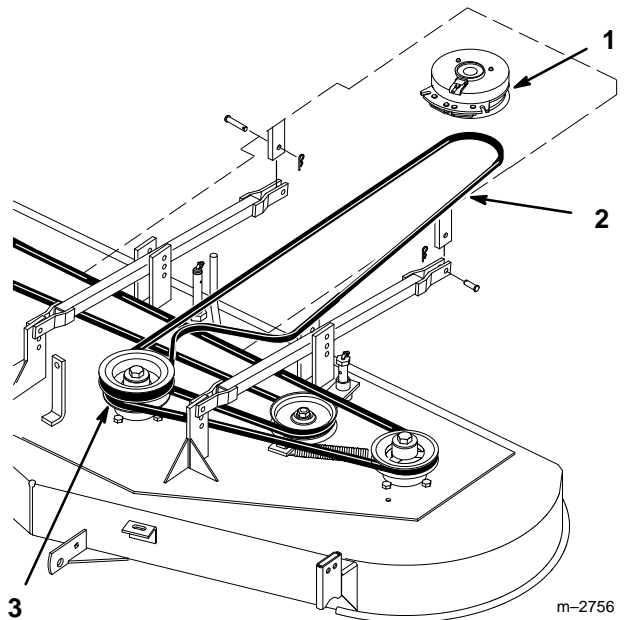

Figure 25
3. Remove the worn drive belt (Fig. 25).
4. Install the new drive belt onto the traction unit PTO clutch pulley and the top groove of the center spindle pulley (Fig. 25).